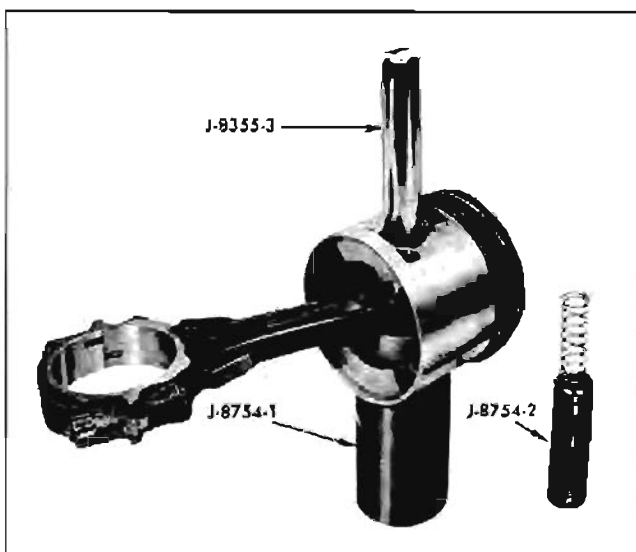

Fig. 6-115 Removing Piston Pin
a. Remove pilot and spring from tool J-8754 (Fig. 6-115).
c. Using driver J-8355-3 (Fig. 6-115), press pin out of piston and connecting rod.